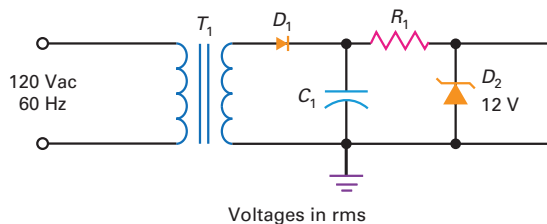

Figure 41-20 Circuit for prob. 41-3.
41.3 Consider the circuit of Fig. 41-20. What is the desired output? If the output is a series of 60-Hz pulses across D_2 , what is the most likely problem?